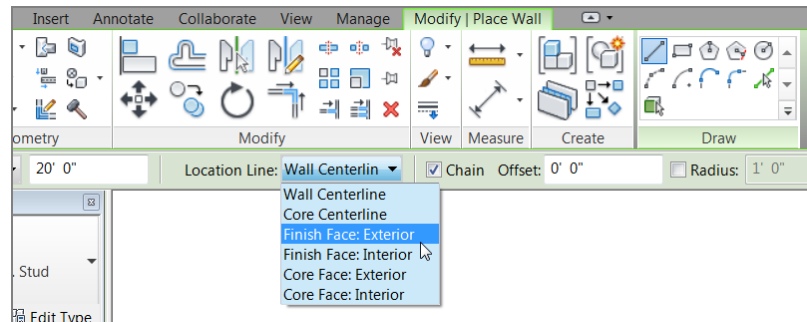

FIGURE 1.14: By selecting **Finish Face: Exterior**, you know the wall will be dimensioned from the outside finish.
2. Back in the Options bar, find the Location Line menu. Through this menu, you can set the wall justification. Select **Finish Face: Exterior** (see Figure 1.14).
3. On the Options bar, be sure the Chain check box is selected, as Figure 1.14 shows. This will allow you to draw the walls continuously.